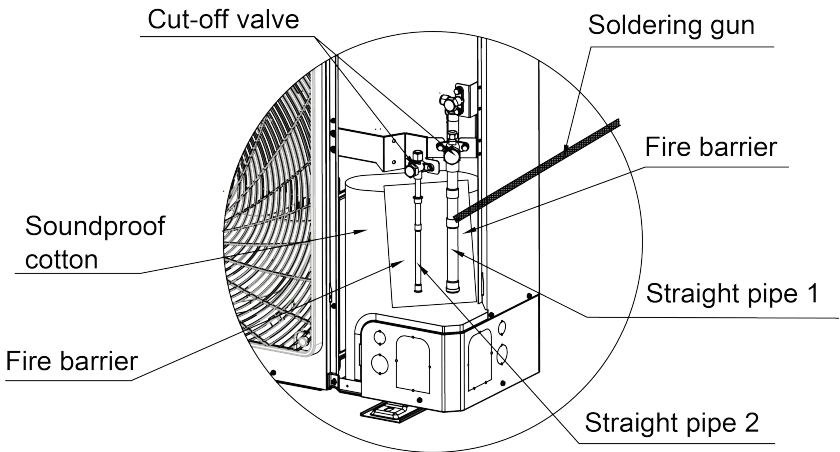
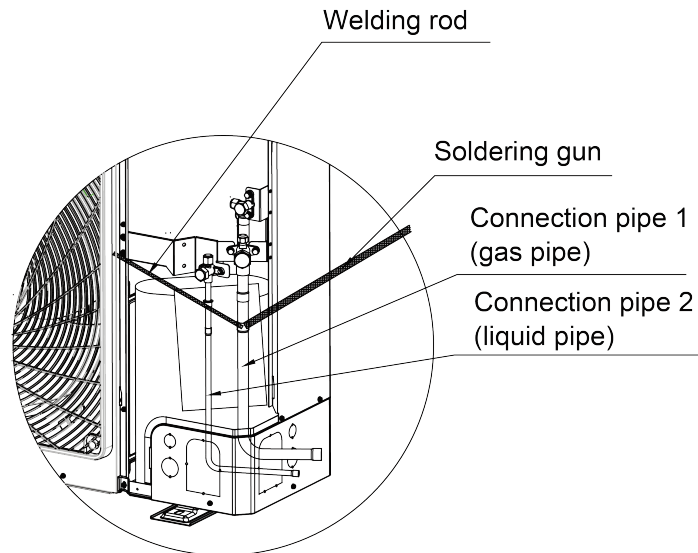

Fig.4.13
Fig.4.14
- (1) Pipe connection for GMV-H224WL/A-X, GMV-224WL/C-X: As shown in Fig.4.13 and Fig.4.14, open the outermost soundproof cotton and place a fire barrier between compressor and straight pipe. Use a soldering gun to unsolder straight pipe 1 and straight pipe 2. Install connection pipe 1 and connection pipe 2 to the corresponding position and then seal the apertures with welding rod. First weld the liquid side connection pipe and then weld the gas side connection pipe. During welding, it's necessary to use wet gauze to wrap up the two cut-off valves. Make sure the flame won't burn the soundproof cotton or other components.